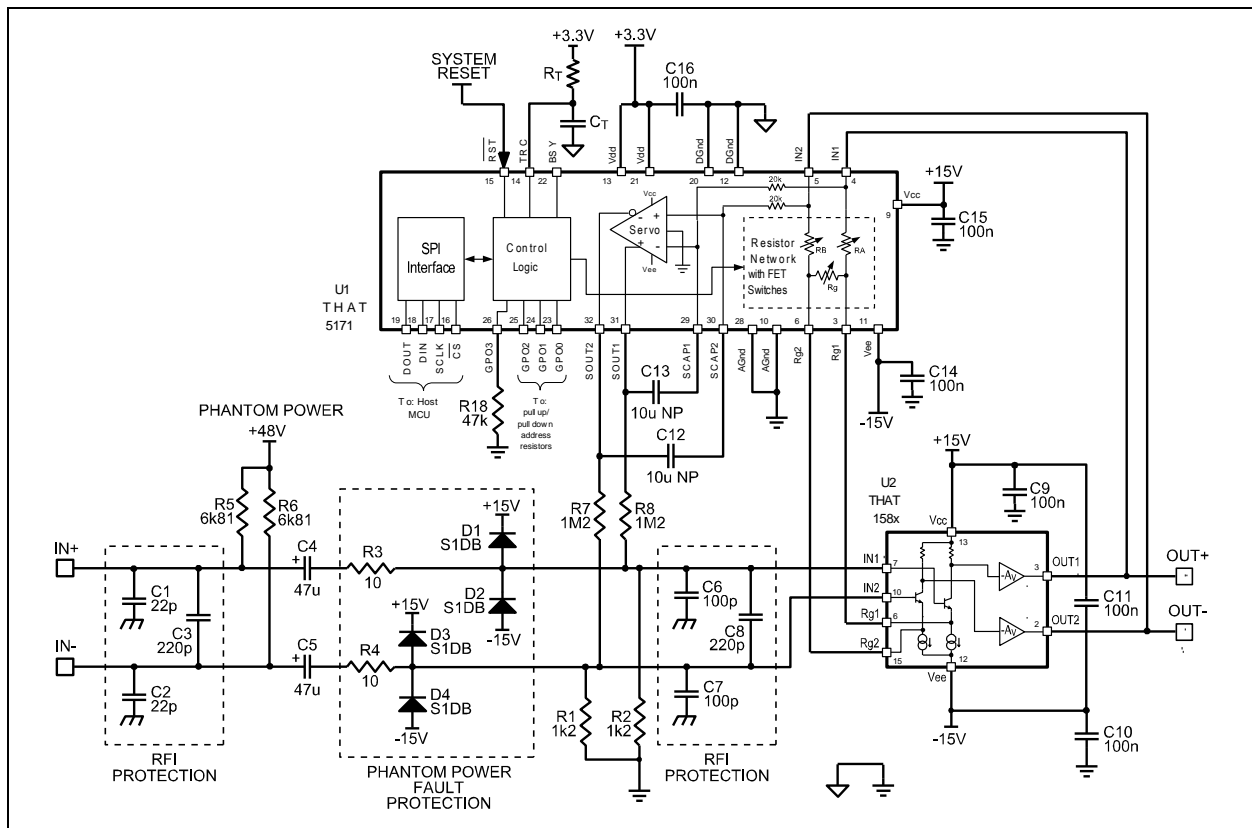
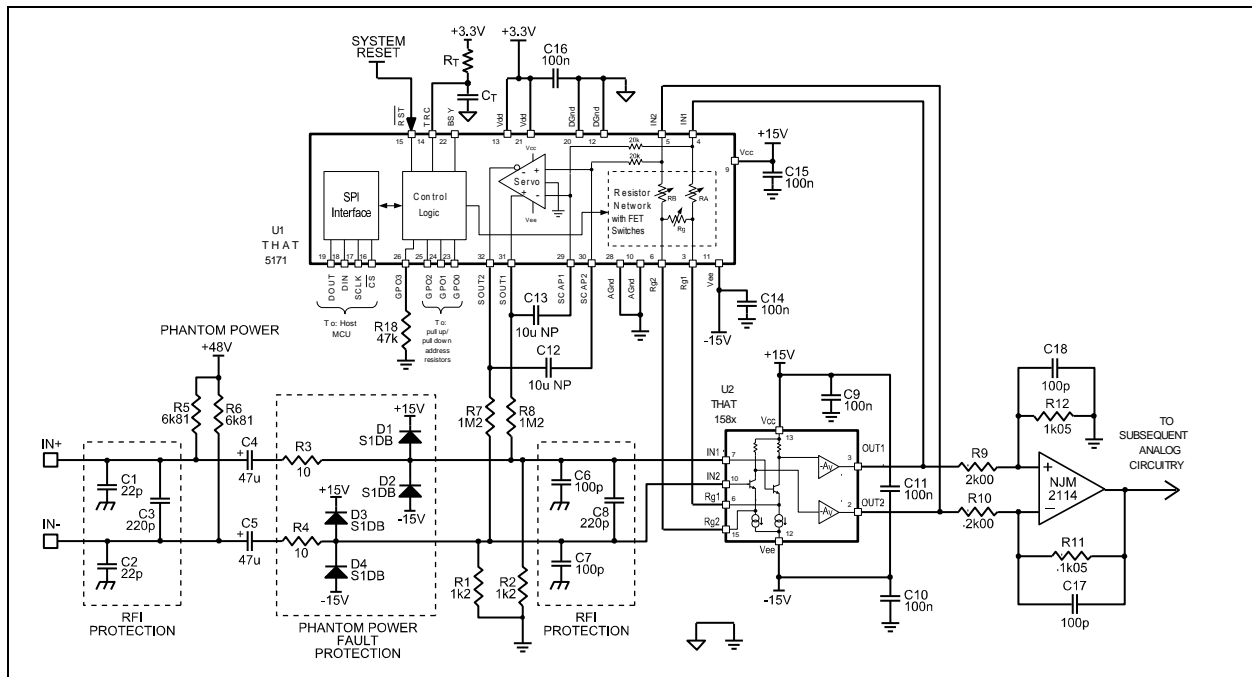

Figure 4. 5171/ 158x basic application circuit.
Figure 5. 5171/158x typical application with single-ended output.
The circuit of Figure 4 shows the most basic application of the 5171 and 1580 to form a complete low-noise microphone preamplifier.
The circuit of Figure 4 offers differential gain that varies from 5.6 to 68.6dB. There is one large ~8dB step from 5.6dB to 13.6dB. Above 13.6dB, gain may be controlled in 1dB steps to +68.6dB. For single-ended analog outputs, the circuit of Figure 4 can be followed by a differential-to-single-ended converter, as shown in Figure 5. Here, the differential amplifier is configured for -5.6dB gain in order to minimize noise and maximize headroom at the output of the circuit. Including the 5.6dB attenuation in the differential amplifier, the system gain can be set to 0dB, or any gain from +8dB to +63dB in 1dB steps.
With the circuit of Figure 5, the maximum input signal levels remain the same, but the (now single-ended) output levels drop by 5.6dB due to the loss of the differential amplifier. When converting to single-ended signals, take care to select a low-noise opamp, and pay attention to the noise generated by the impedances. The component values shown in Figure 5 will largely preserve the dynamic range of the 1580 and 5171 combination, though they do compromise noise by 1dB at the lowest gain settings.
The circuits of Fig 4 through 7 include RFI protection in two sections. Small capacitors (C₁ and C₂) are used from the positive and negative signal inputs to chassis ground, along with a larger capacitor (C₃) across the two inputs. These components should be located as close as possible to the input signal connector, and are intended to prevent RF from entering the chassis of the device.
- 2) **ZERO-CROSSING Mode:** Updates are made on the next output signal zero-crossing after a rising edge on the /CS pin. An RC time constant connected to the TRC pin (R_T/C_T in Figures 4~7) establishes a time-out period in case a zero-crossing does not occur within a desired time window. The zero-crossing time-out function operates as follows: